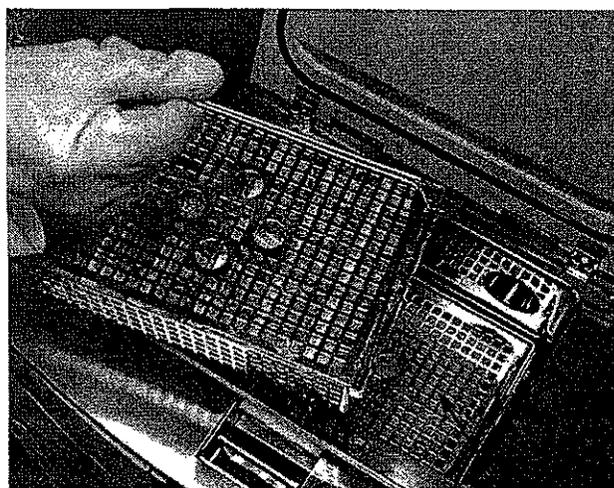

Figure 4-2
**NOTE:** The instrument can be loaded with either up to 150 cassettes, or up to 300 cassettes per load. To run the instrument for up to 150 cassettes (Figure 4-2), two **displacement blocks** must be placed inside the bottom basket ①. Reagent volumes in stations 1 through 14 should be at least 2.7 L. **When running up to 300 cassettes, the displacement blocks are not used and the reagent volumes must be at least 3.7 L.**